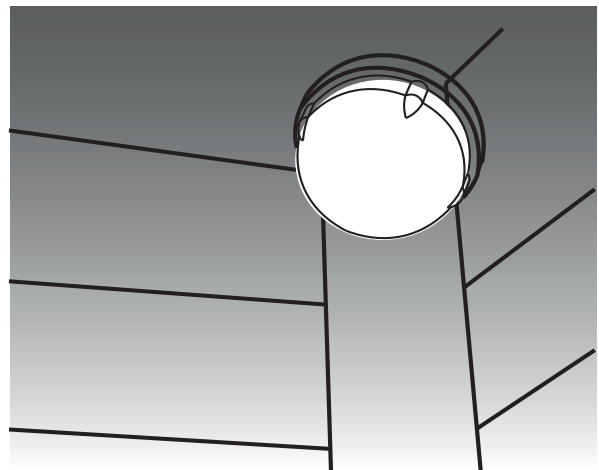

Figure 11: Wall oven Halogen light
1. Open oven door completely, horizontal with floor (Figure 11).
3. Fully open the oven door, horizontal with floor (Figure 11).